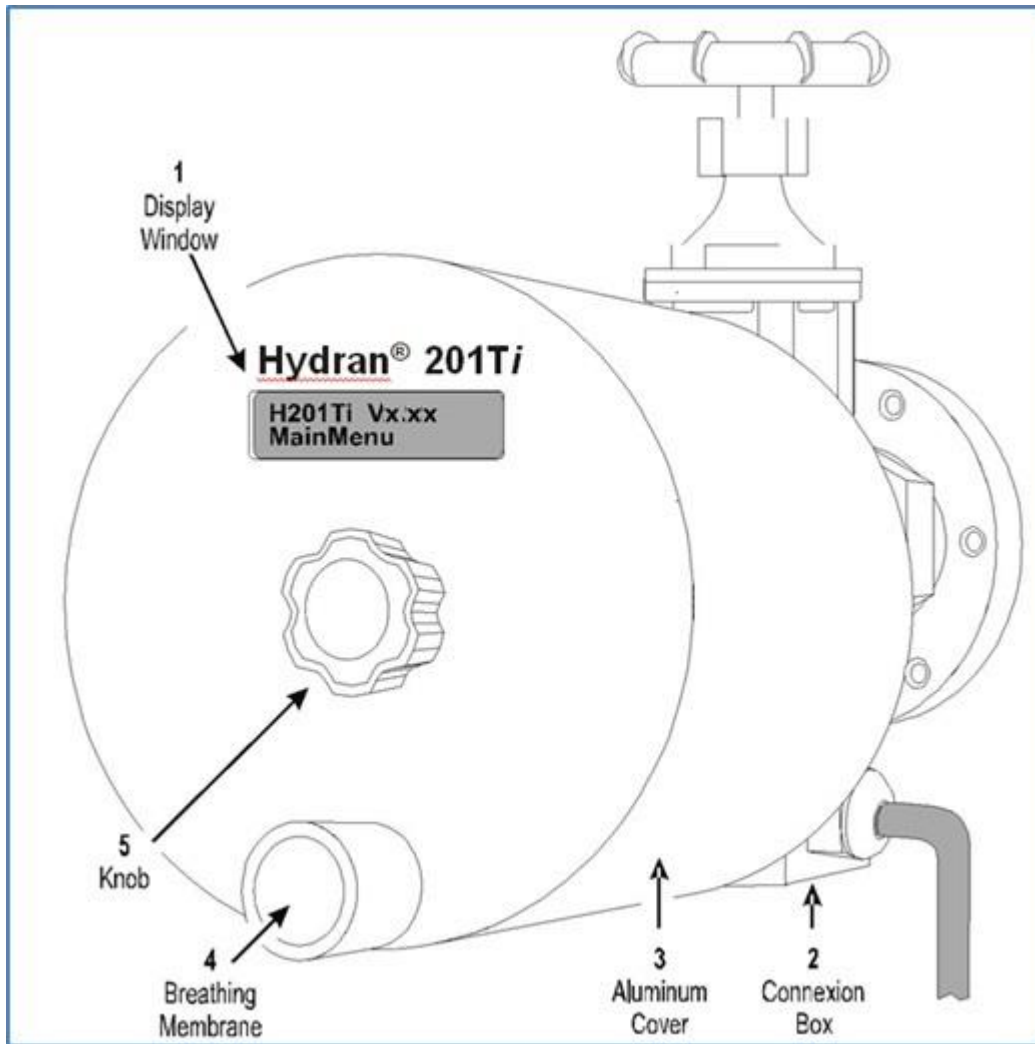
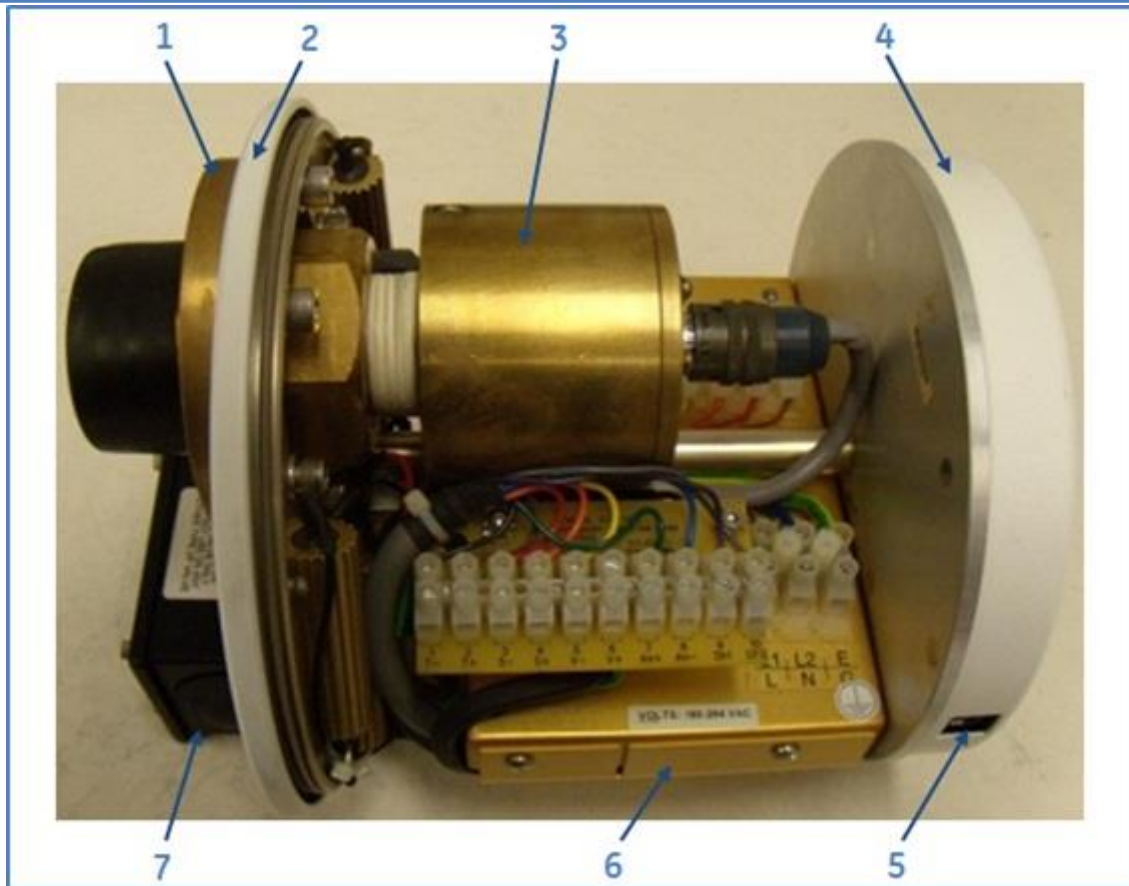

Figure 3-1: Hydran 201Ti's Enclosure (Mounted on a Valve)
Figure 3-2: Internal View of Hydran 201Ti
Here is a description of the Hydran 201Ti's external components (see Figure 3-1 below):
An internal view of the Hydran 201Ti is presented in Figure 3-2 below. The major components are described in this Section:
The Hydran 201Ti and the Hydran 201 sensor mount onto the valve of the transformer or other electrical equipment using a flanged brass adaptor (item 1 in Figure 3-2 above). This adaptor has male threads at one end that screw directly onto the transformer valve, and female threads at the other end to which the sensor is screwed. The heating plate of the H201Ti's enclosure bolts onto the adaptor flange. The H201Ti can thus be installed or replaced without removing the adaptor and the sensor from the transformer valve.
Heating resistors and a temperature-sensing thermistor are mounted on the heating plate (item 2 in Figure 3-2). The power input to the heating plate is controlled by the Hydran 201Ti and the aluminum cover (item 3 in Figure 3-1) acts as a heat radiator. This allows the enclosure to maintain the temperature of the Hydran 201 sensor (and electronics) between 25 and 50°C (77 and 122°F), regardless of the ambient or oil temperatures. For details, see Section 3.6.
The CPU module (item 4 in Figure 3-2) contains a microprocessor which is the brain of the Hydran 201T *i*. It is built as a circular, flat case. It fits snugly over the H201T's center post and attaches to the I/O module (Section 3.4.6) using only two screws. Should the need arise; the CPU module can be replaced very easily.
Located on the side of the CPU module (item 5 in Figure 3-2), the USB Type B female connector allows local communications between the H201T*i* and a host computer. This connector is isolated from the main electronic circuitry. For wiring details, see Table D – 7 in Appendix D.